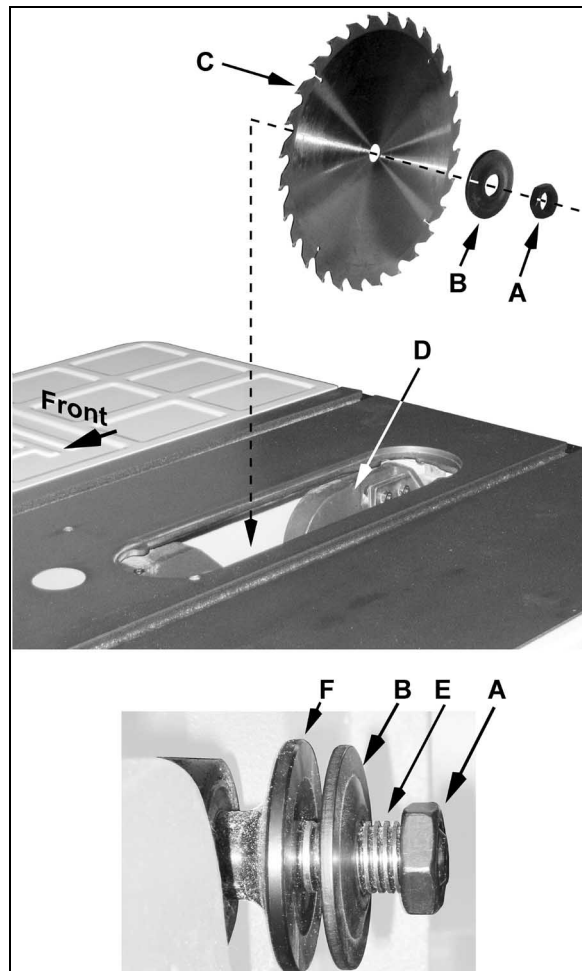

Figure 14
Referring to Figure 14:
2. Using the tools provided, remove the *arbor nut* (A) and *outer flange* (B). If replacing blade, remove the old blade.
3. Place the *blade* (C) on the *arbor shaft* (E) making sure that the teeth point down at the front of the saw (note the blade orientation in Figure 14). Replace the flange (B) and arbor nut (A).
4. Tighten the arbor nut (A).